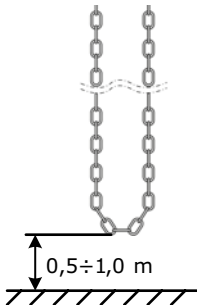

Figure 6
- The edge of the chain of the emergency manual control when assembled should be at a height of 0.5–1 m (fig. 6). If necessary, shorten the chain. The maximum length of the chain in an installation kit is 10 m. If the length of the chain is not sufficient, then it is necessary to purchase a chain of the required length.